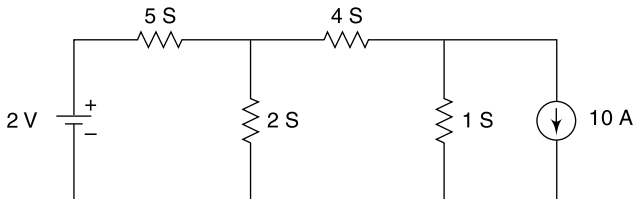

Fig. 4.125 Circuit of Ex. 4.93
4.94 Determine the current in the conductor of 2 Siemens of the network shown in Fig. 4.125 using node voltage analysis.